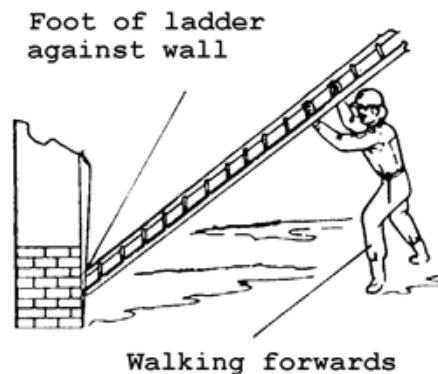

FIG 27.
- ✓ Place the foot of the ladder against the wall and lift the ladder by walking forward hand over hand from rung to rung. (Fig 27)